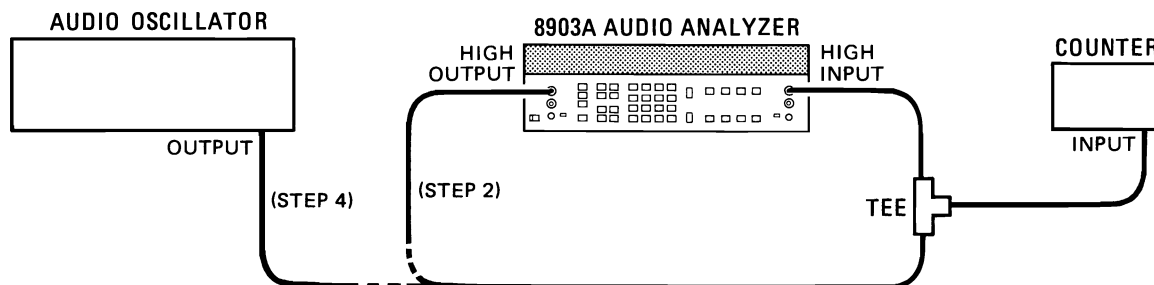

Figure 4-3. Frequency Accuracy and Sensitivity Test Setup
2. Connect the equipment as shown in Figure 4-3.
4. Connect the audio oscillator output to the Audio Analyzer's HIGH INPUT in place of the line from the HIGH OUTPUT as shown in Figure 4-3.